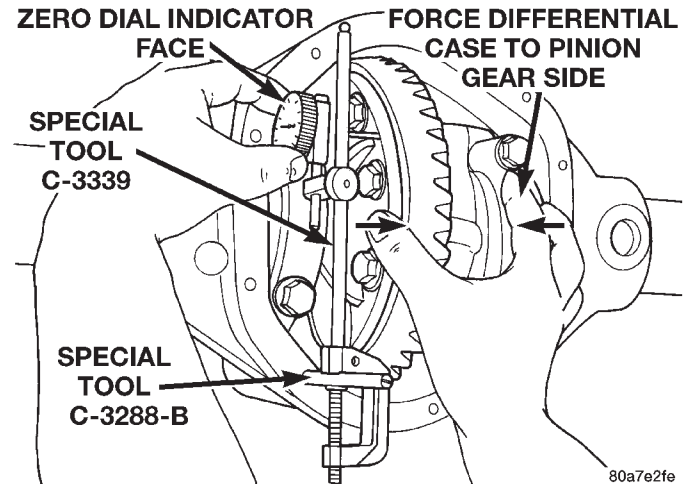

Fig. 66 Hold Differential Case and Zero Dial Indicator
- (10) Push and hold differential case to pinion gear side of axle housing (Fig. 66).
- (11) Zero dial indicator face to pointer (Fig. 66).